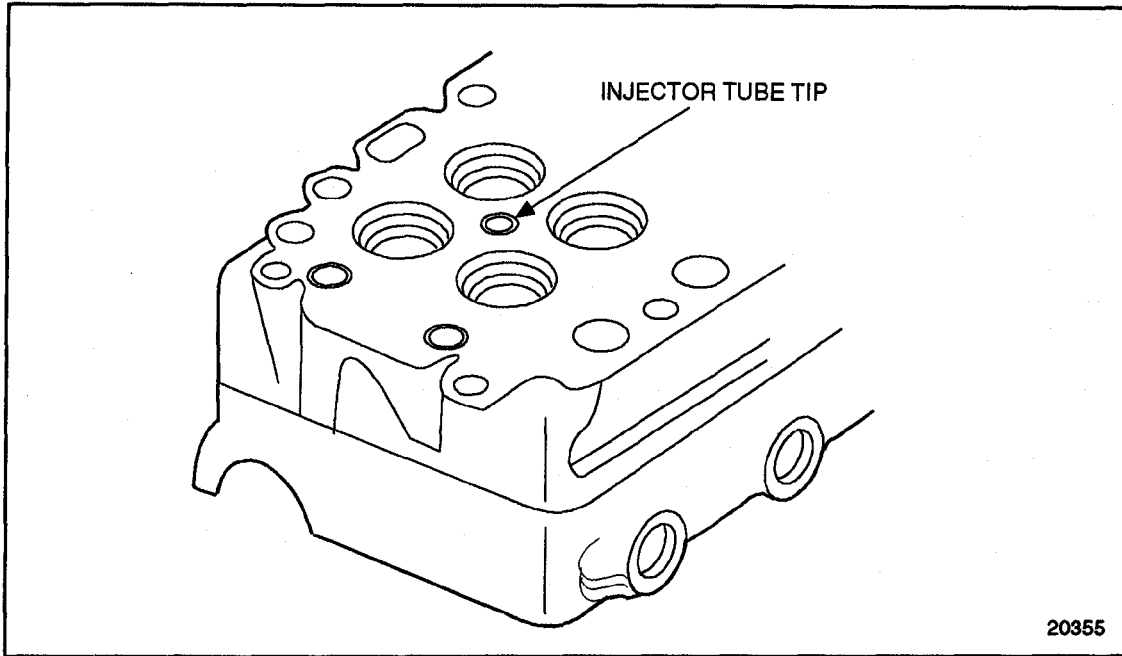

Figure 2-19 Properly Flared Injector Tube Tip
8. Continue to rotate J 5286-6 and apply pressure to the flare end of the tube firmly against the cylinder head casting tube opening. Do not exceed 41 N·m (30 lb-ft) torque. See Figure 2-19.